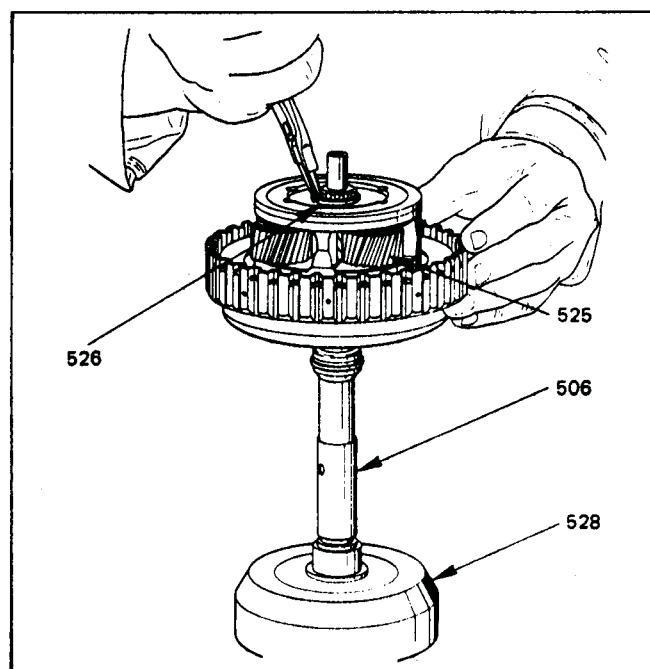

Figure 69
19. Using the overdrive ring gear as a fixture, install complete overdrive unit on the turbine shaft and install snap ring, as shown in Figure 69.